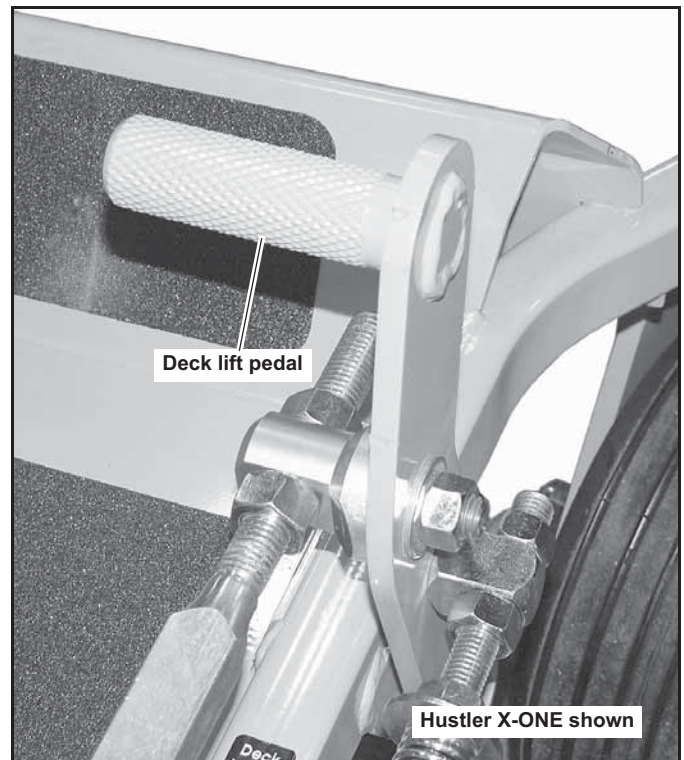

Figure 3-5
- B. Deck lift pedal (Figure 3-5)** — the deck lift pedal is used to raise or lower the deck. Push on the pedal to raise the deck and then place the deck height locking pin into the desired cutting height hole. Push the deck lift pedal to raise the deck when going over obstructions.